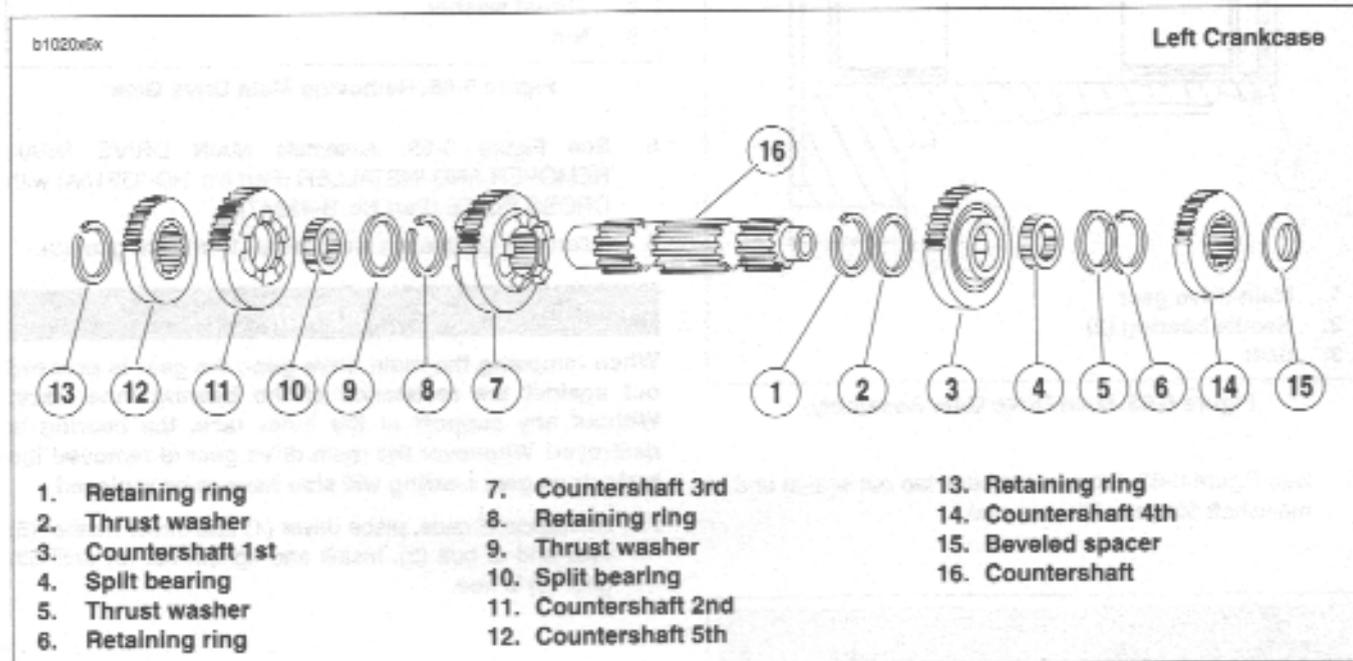

Figure 6-62. Transmission Countershaft Assembly/Reassembly
1. See Figure 6-62. Install new retaining ring (1) and thrust washer (2) onto countershaft in the second ring groove from the end with internal threads.
2. Install split bearing (4) onto countershaft.
3. Locate countershaft 1st gear (3), identified by one radial groove at one side, and slide gear onto shaft. Position gear over bearing (4).
4. Install thrust washer (5) and new retaining ring (6) next to countershaft 1st gear (3).
5. Install countershaft 3rd gear (7) on countershaft with fork groove facing away from countershaft 1st gear (3).
6. Install new retaining ring (8) on countershaft. Position new retaining ring in the second ring groove from the end. Install thrust washer (9) next to retaining ring (8). Install split bearing (10) in seat next to washer (9).